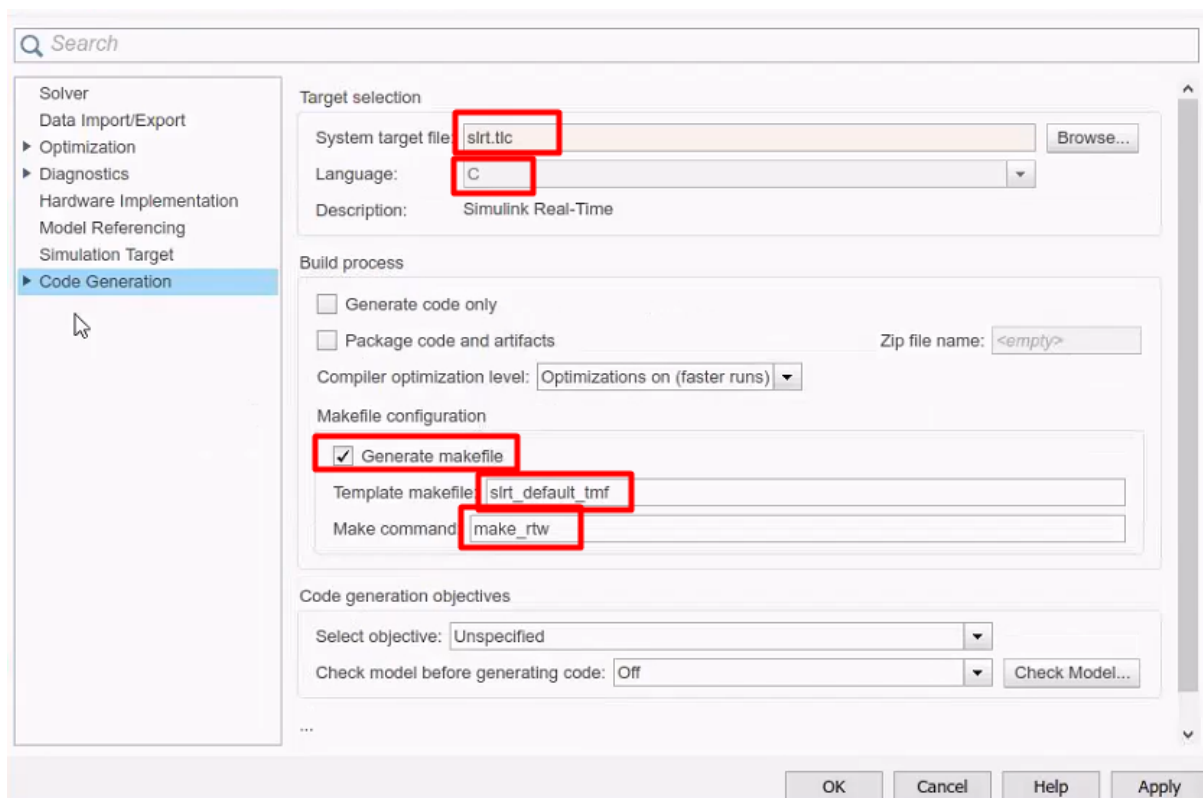

Figure 13.68: Set the Simulink code generation options.
9. (Figure 13.68) In the “Code Generation” tab, set the options: